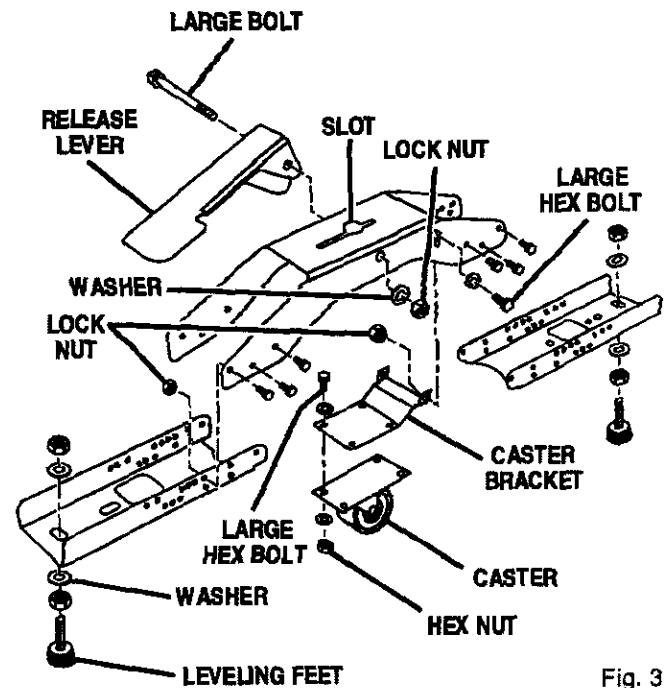

Fig. 3
- Attach leveling feet to lower support bracket using hex nuts and washers as shown in figure 3. Leveling feet must touch the floor when the caster is in the raised position.